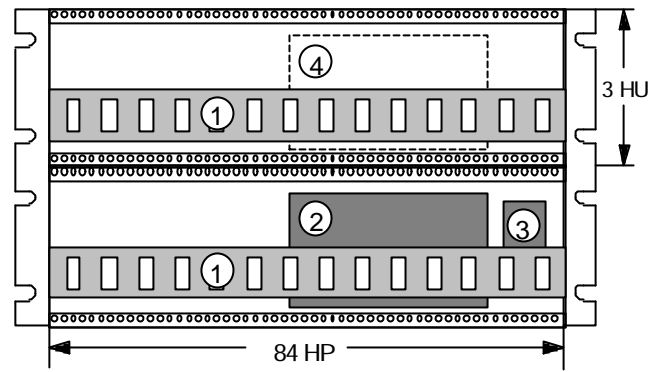

Fig. 1: A look inside the A-100 G rack system
The **rack system** (see Fig. 1) conforms to the 19" standard, and consists of two sections each 3U high, tied together by 6U side panels. It contains two system busses (1), the internal power supply (2), and the main electrical supply socket (3).
Module **front panels** are all 3U high. Their width is measured in HP (1 HP = 5.08 mm). The rack system has a **usable width of 84 HP** (see Fig. 1). If the modules you install don't use up the entire 84 HP, then you must cover up the spaces with **blanking panels**.
The rack system power supply produces voltages of +12 V and -12 V and can put out a **maximum current of 650 mA**. In setting up a modular system, make sure that the total current required by all the modules doesn't exceed this maximum. If it does, then a second power supply (see Accessories) will need to be installed (at position 4, Fig.1). As a rule, though, one power supply should be sufficient for a rack system.